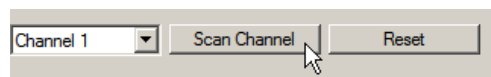

Figure 61: LINX Configurator software, scan DALI Channel.
2. Select the DALI channel and click on the **Scan Channel** button shown in Figure 61.